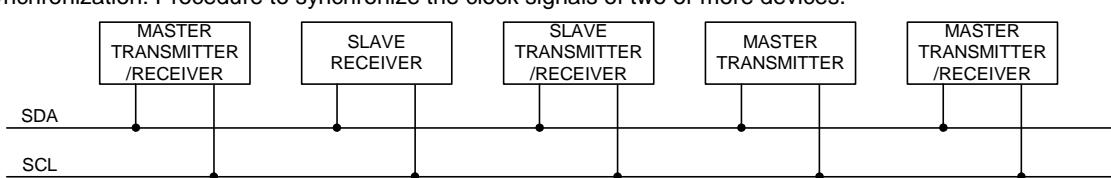
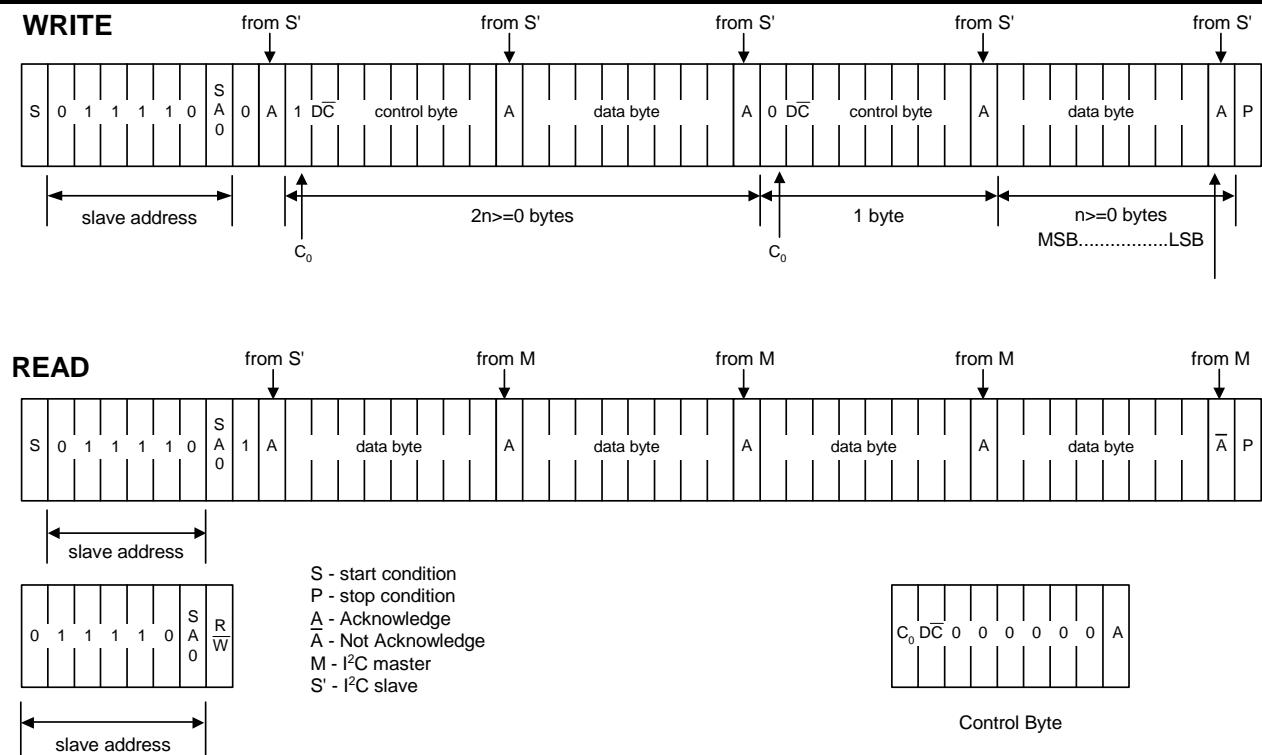

Figure 7 System configuration
Figure 9 I²C Protocol
The SH1126 supports both read and write access. The R/W bit is part of the slave address. Before any data is transmitted on the I²C-bus, the device that should respond is addressed first. Two 7-bit slave addresses (0111100 and 0111101) are reserved for the SH1126. The least significant bit of the slave address is set by connecting the input SA0 to either logic 0(V_{SS}) or 1(V_{DD1}). The I²C-bus protocol is illustrated in Fig.9. The sequence is initiated with a START condition (S) from the I²C-bus master that is followed by the slave address. All slaves with the corresponding address acknowledge in parallel, all the others will ignore the I²C-bus transfer. After acknowledgement, one or more command words follow which define the status of the addressed slaves. A command word consists of a control byte, which defines Co and D/C (note1), plus a data byte (see Fig.7). The last control byte is tagged with a cleared most significant bit, the continuation bit Co. After a control byte with a cleared Co-bit, only data bytes will follow. The state of the D/C-bit defines whether the data-byte is interpreted as a command or as RAM-data. The control and data bytes are also acknowledged by all addressed slaves on the bus. After the last control byte, depending on the D/C-bit setting, either a series of display data bytes or command data bytes may follow. If the D/C-bit was set to '1', these display bytes are stored in the display RAM at the address specified by the data pointer. The data pointer is automatically updated and the data is directed to the intended SH1126 device. If the D/C-bit of the last control byte was set to '0', these command bytes will be decoded and the setting of the device will be changed according to the received commands. The acknowledgement after each byte is made only by the addressed slave. At the end of the transmission the I²C-bus master issues a stop condition (P). If the R/W bit is set to one in the slave-address, the chip will output data immediately after the slave-address according to the D/C-bit, which was sent during the last write access. If no acknowledge is generated by the master after a byte, the driver stops transferring data to the master.